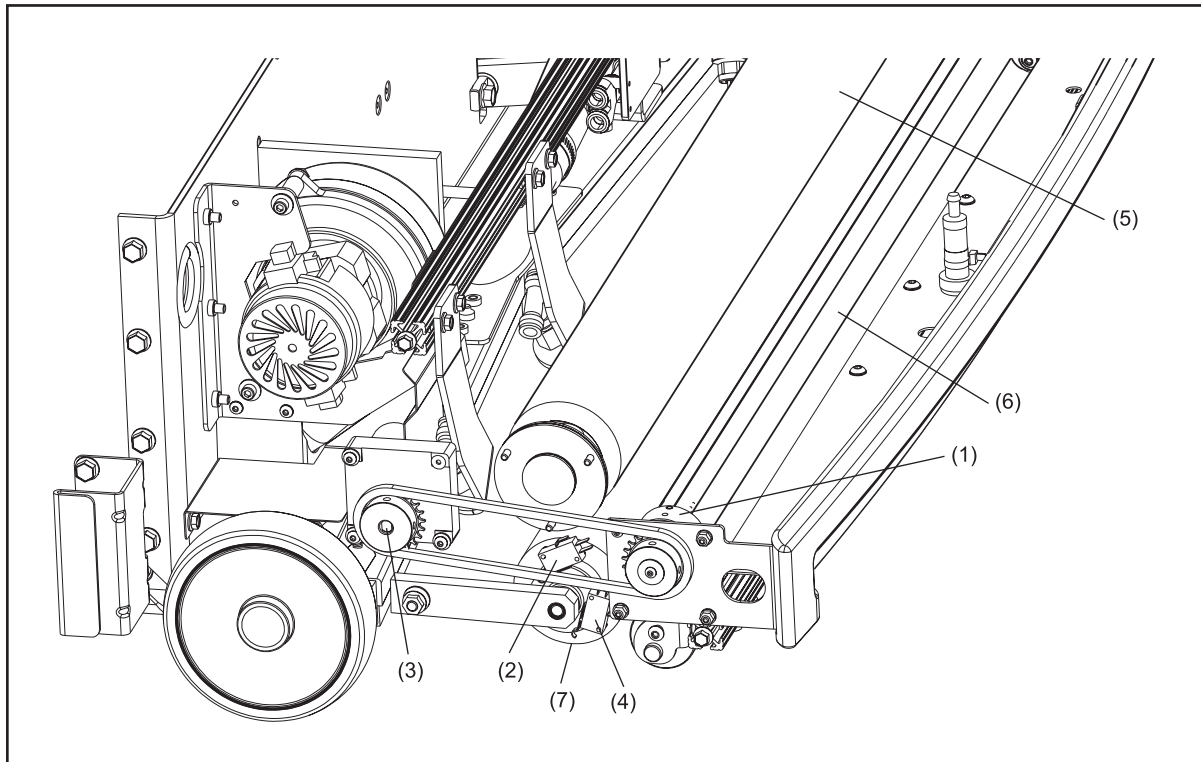

Figure 2-3. Duster Cloth System
1. The duster contact roller lowers so the duster cloth is in contact with the lane surface, removes dust and dirt from the lane surface as the machine travels toward the pin deck. Refer to Figure 2-3.
7. The duster cloth take-up roller continues to rotate to advance new duster cloth for use on the next lane. Refer back to Figure 2-3.